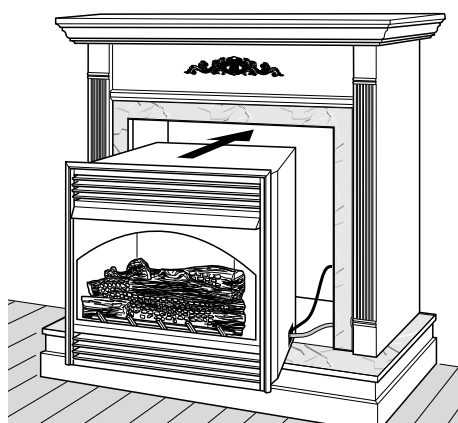

Figure 12 - Inserting Fireplace Into Cabinet Mantel
- Carefully insert fireplace into cabinet mantel (Figure 12). Be careful not to scratch or damage hearth base, cabinet mantel, or any laminate trim on hearth base. Remove protective material from top of hearth base and from front of fireplace (if any). **Note:** You can secure fireplace to hearth or floor. Open lower louver. Locate screw holes in bottom of base. Tighten wood screws through these holes and into hearth or floor.